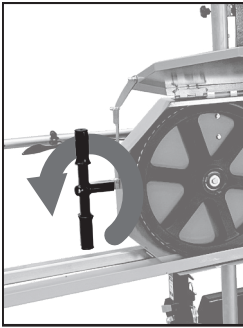

Fig. 71
- To install a new blade: with the engine OFF, turn the Tension Adjusting Tee Handle counterclockwise several turns (Fig. 71) to allow a new blade to be slipped on. Loosen the screws on both Bottom Guide Blocks with a hex key.